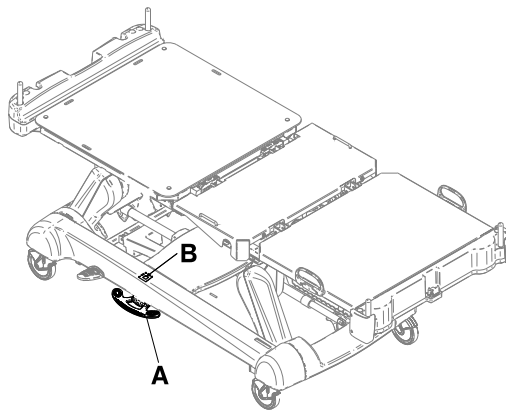

Figure 6: Brake pedal window
2. Fully depress the brake pedal (A) until **Brake** appears in the brake pedal window (B) (Figure 6 on page 21).
To release the manual brakes, depress the pedal until **Neutral** or **Drive** appears in the brake pedal window (B) (Figure 6 on page 21).